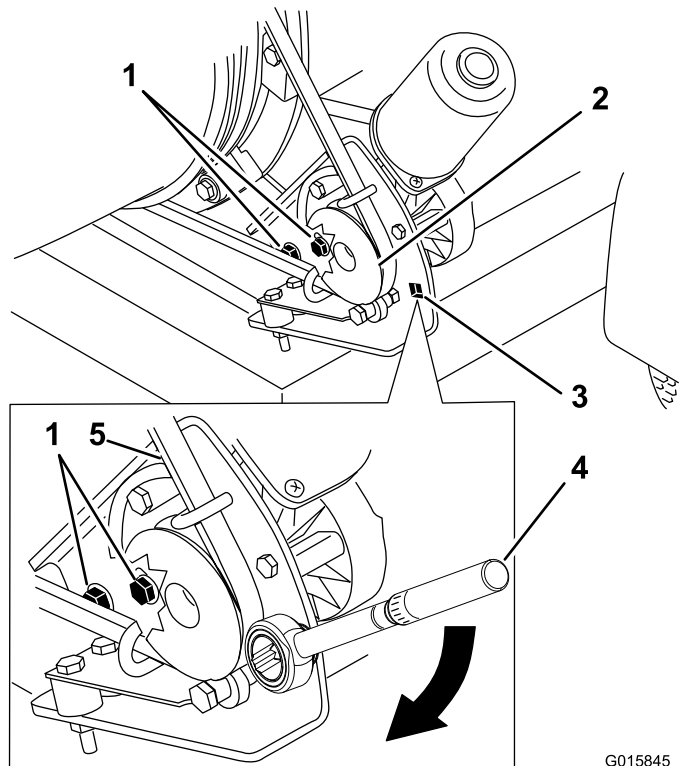

Figure 47
2. Loosen the 2 flange capscrews and 2 flange locknuts securing the motor-mounting bracket to the housing mount of the machine frame (Figure 47).
3. Insert the drive of a torque wrench into the pulley mounting bracket as shown in Figure 47.
4. Pivot the motor-mounting bracket away from the blower nozzle (Figure 47) until the torque wrench reads 22.6 to 26.0 N·m (200 to 230 in-lb).